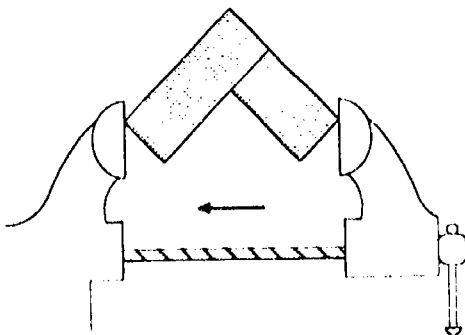

Figure 9. Test 3: if the boards are at right angles, place them in a vise as shown here.
- a. Place the pair of boards in a vise as shown in Figure 9.